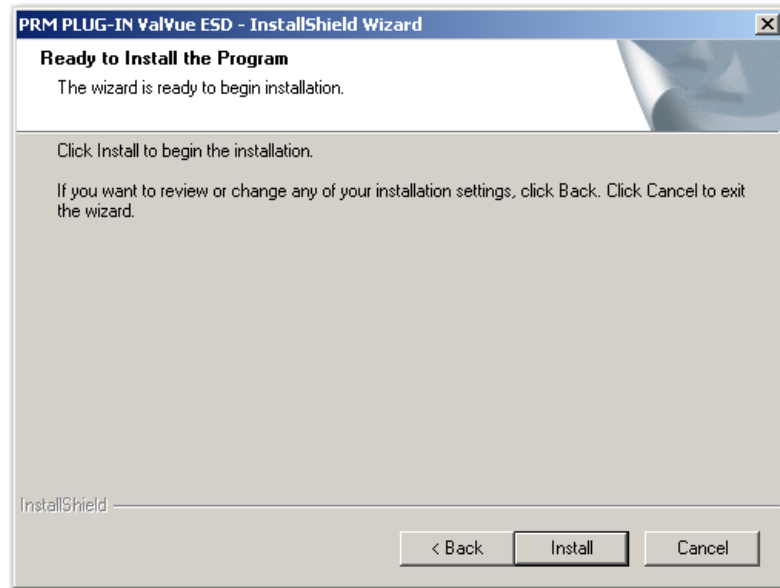

Figure 28 Ready to Install
10. Navigate to the desired folder, click **OK** and **Next** and the screen appears (Figure 28).